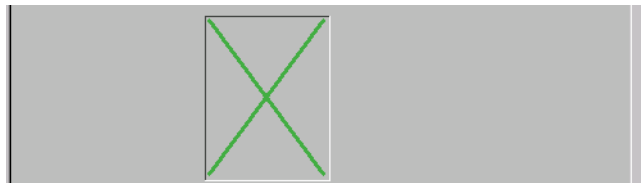

Figure 157. Green Cross in Run Mode
4. To run the display, select the display in the object browser, right click, and then choose **Run** from the context menu. When switching to run mode a green cross is displayed, Figure 157. After a while the value of the AI object is displayed.